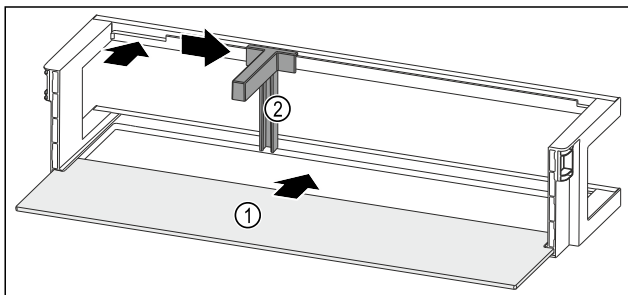

Fig. 87 Door rack with shelf
- Push the shelf Fig. 87 (1) into the side recesses.
- Insert the bottle holder Fig. 87 (2) in the recess.
- Push the bottle holder Fig. 87 (2) to the desired position to the side.